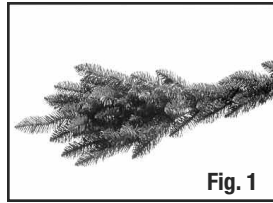

Fig. 1
1. If your tree has a metal stand, unfold it and insert the eye bolt. Remove packing material from ends of poles. Put bottom section pole into tree stand making sure it is seated properly (Figure 1). Tighten eye bolt.
1. Unfold the tree stand and insert the eye bolt. Remove packing material from ends of poles. Put bottom section pole into tree stand making sure it is seated properly (Figure 1). Tighten eye bolt until bottom section is held securely.
1. Every tree style is shipped from the factory with the tips of each branch compressed to the center (Figure 1).